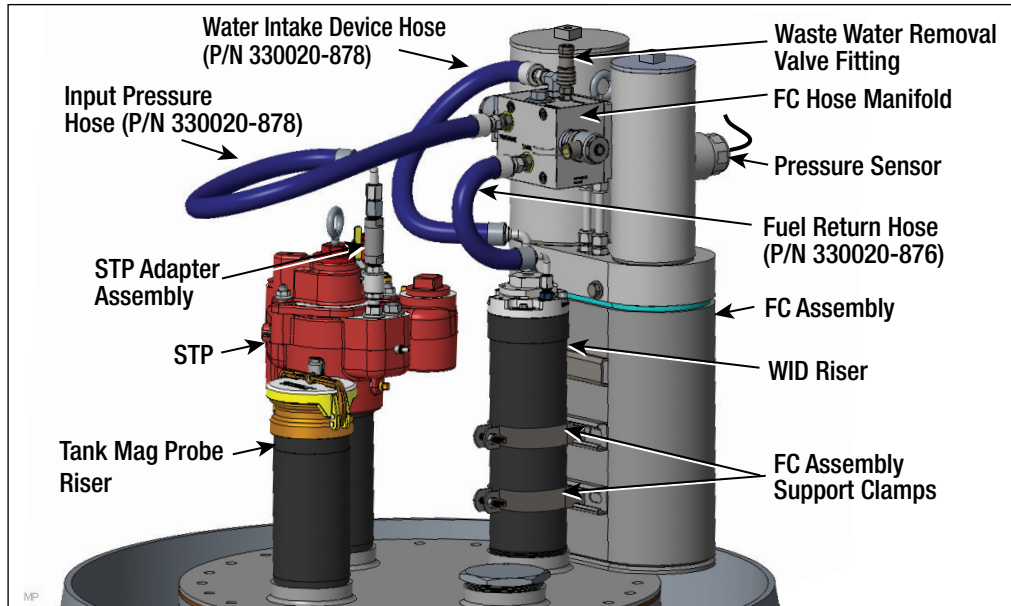

Figure 2. HydrX In-Sump Components
Sump components of the HydrX system are shown in Figure 2.
4. Orient the HydrX until the hose connections on the manifold are facing the center of the manway (see Figure 2). If necessary due to space limitations, the assembly can face the opposite way. Once it is in its final position, tighten the two support clamps securely.